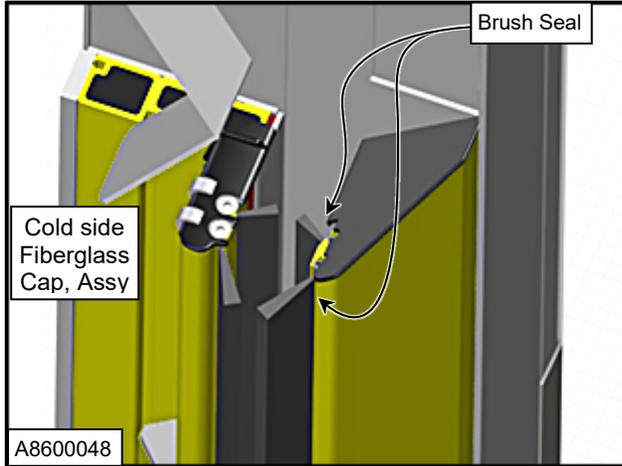

Figure 22
3. Ensure that the panel is securely fastened to the bottom bar assembly. Tighten or replace loose or damaged mounting hardware as required. (See Figure 22)